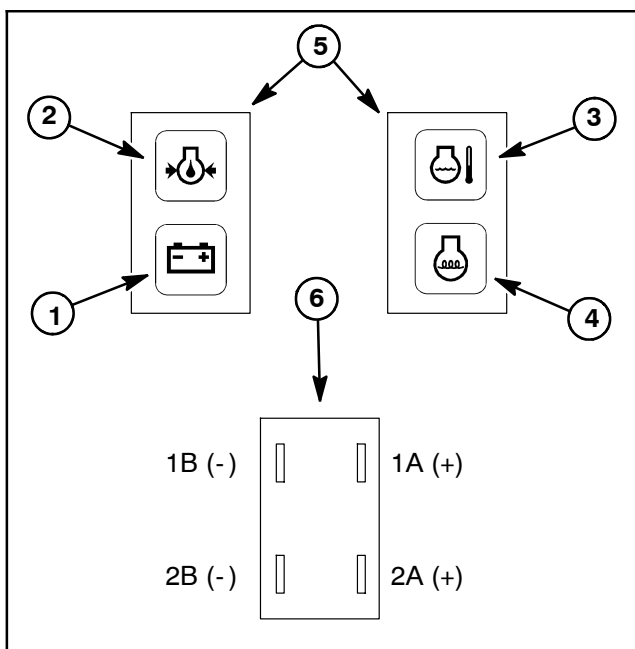

Figure 18
1. Apply 12 VDC to terminals 1A and 2A (Fig. 18).
2. Ground terminals 1B and 2B (Fig. 18).